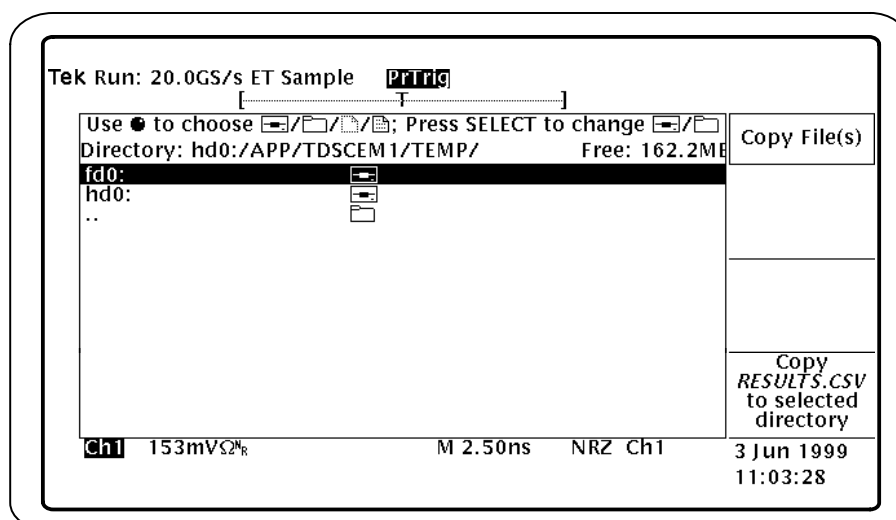

Figure 16: Copying the RESULTS.CSV file to a floppy disk
- g. Use the GP knob to highlight fd0: and press Copy RESULTS.CSV to selected directory (side). Figure 16 shows this side menu item.